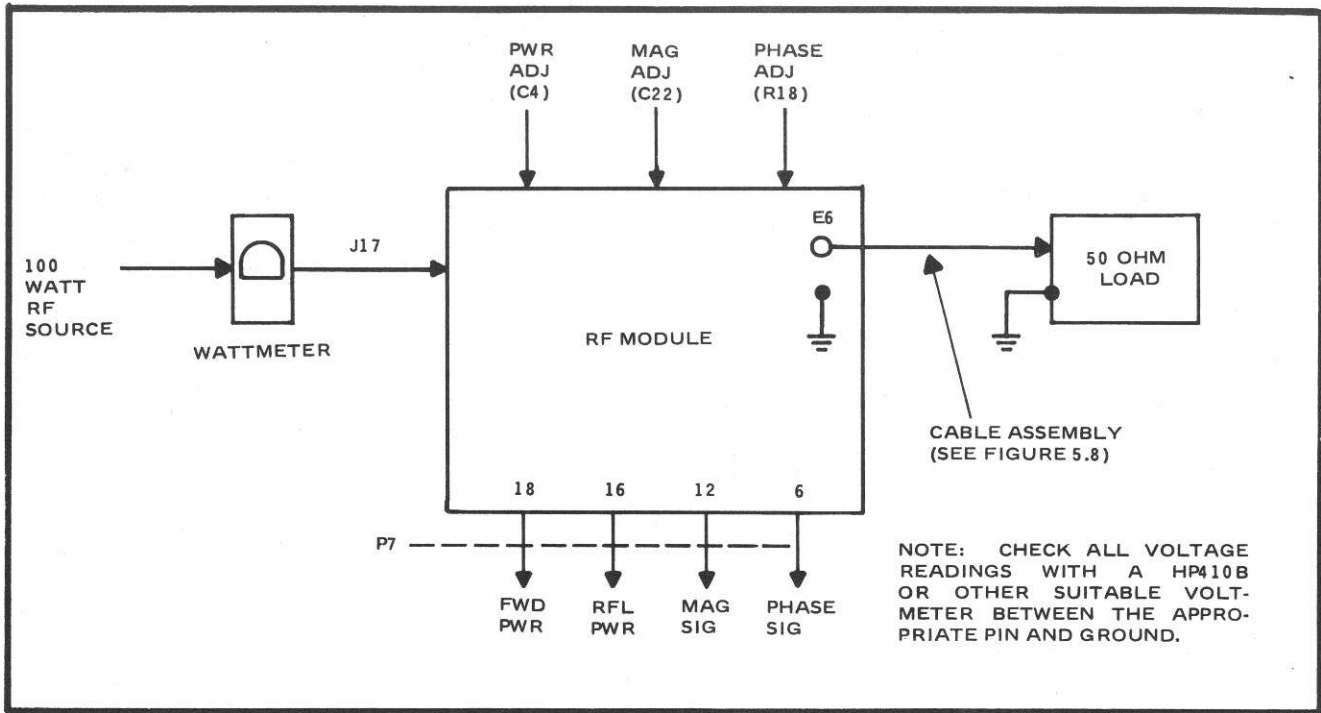

Figure 5.7 RF Module Test Set-Up
- 3) Remove the lugged wire from E6 and hook up the test set-up as shown in Figure 5.7.